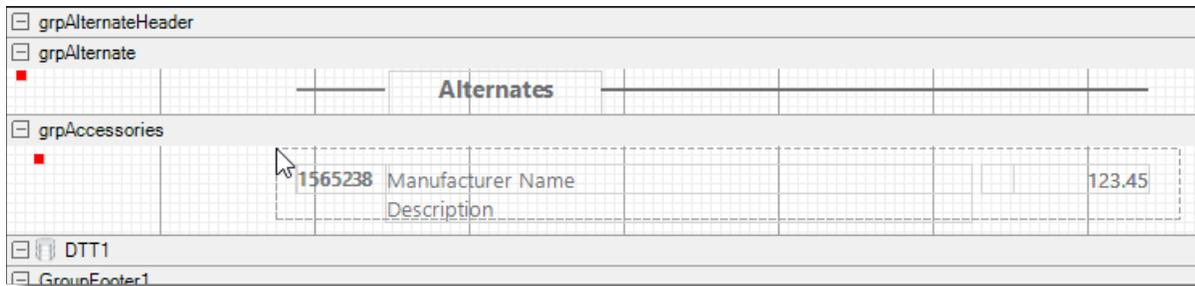

Figure 8. Select textboxes by dragging a window around them
- Next, drag a window across the textboxes in the 'grpAccessories' section (See Figure 8). Again, update the font by choosing a new font from the toolbar.